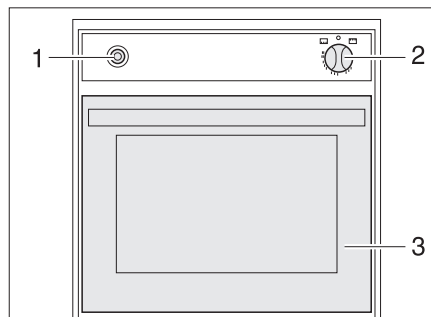

Fig. 140 Gas oven
- Fully open the oven flap (Bild 140,3).
- Lightly press control knob (Bild 140,2) and set to "🔥" (oven) or "GRILL" (grill).
- Press the control knob (Bild 140,2) and hold it down for 5 to 10 seconds. Gas will stream into the burner.
- Press the ignition switch (Bild 140,1) repeatedly until there is a flame.
- Turn the control knob (Bild 140,2) to "0". The flame fades.